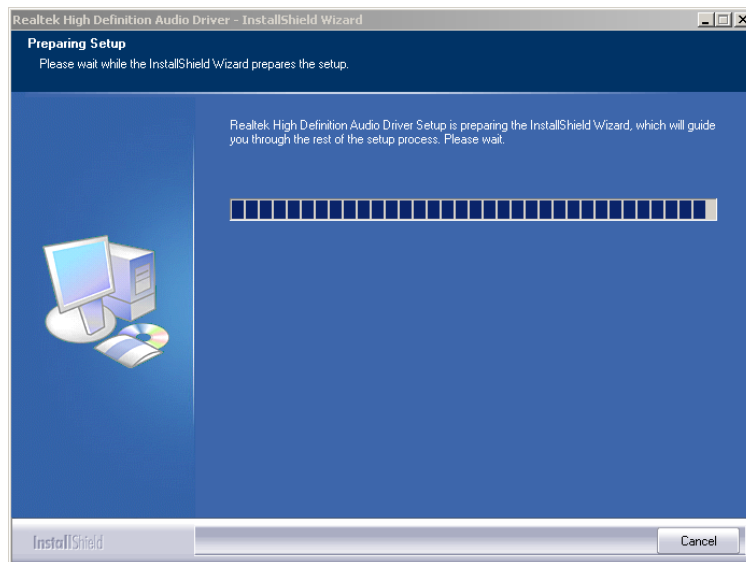

Figure 6-20: Preparing Setup Screen
Step 5: The **InstallShield Wizard** is prepared to guide the user through the rest of the process (**Figure 6-20**).